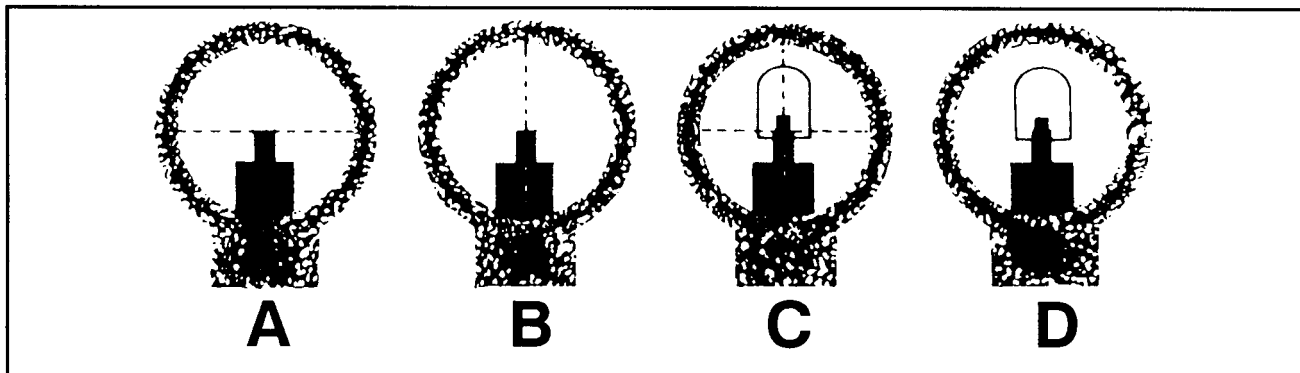

Figure 5-2. Sight picture.
(3) *Sight picture.* A correct sight picture has the target, front sight post, and rear sight aligned. The sight picture consists of sight alignment and placement of the aiming point on the target. Align the tip of the front sight post in the center (Figure 5-2) of the rear peep sight and then align the sights with the target. Align the top of the front sight post on the center base of the target.